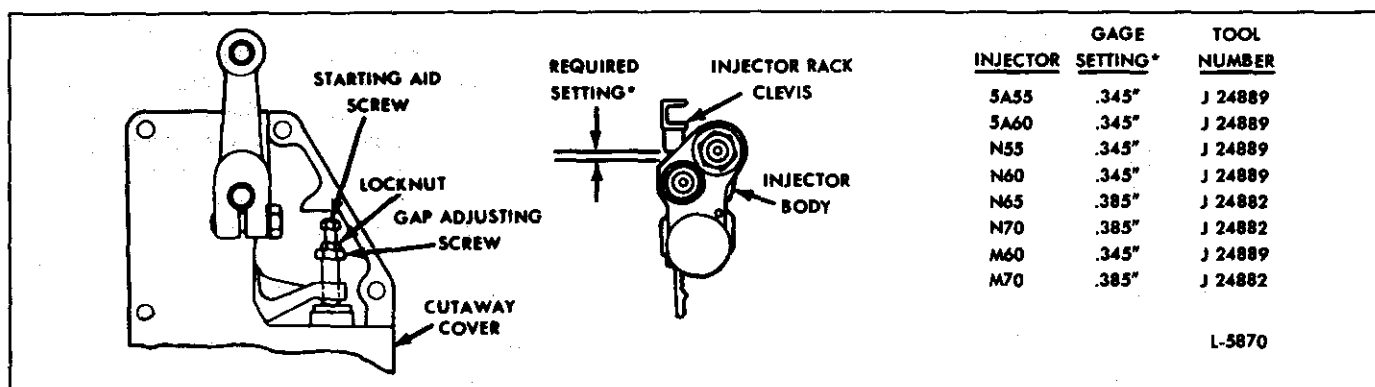

Fig. 5 - Starting Aid Screw Adjustment
- Install a cutaway governor cover assembly, on the governor housing (Fig. 5).
- Hold the gap adjusting screw to keep it from turning and adjust the starting aid screw to obtain the required setting between the shoulder on the injector rack clevis and the counterbore in the injector body (Fig. 5). Move the gage back and forth along the injector rack until a clearance of  $1/64"$  is noted. The setting is measured at any convenient cylinder. Tighten the locknut on the starting aid screw sufficiently to prevent oil leakage as well as to hold the adjusting screw setting.